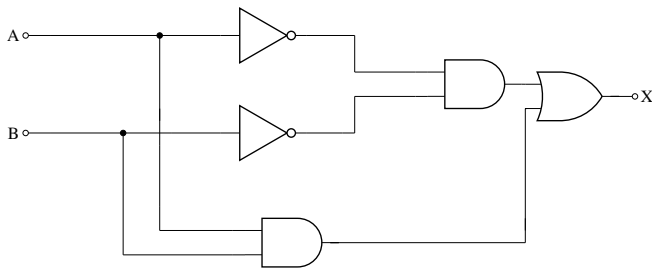

Fig. 3.32: Logic Gate Structure
50.  $A$  and  $B$  are logical inputs and  $X$  is the logical output shown in Fig. 3.32. The output  $X$  is related to  $A$  and  $B$  by (GATE IN 2017)